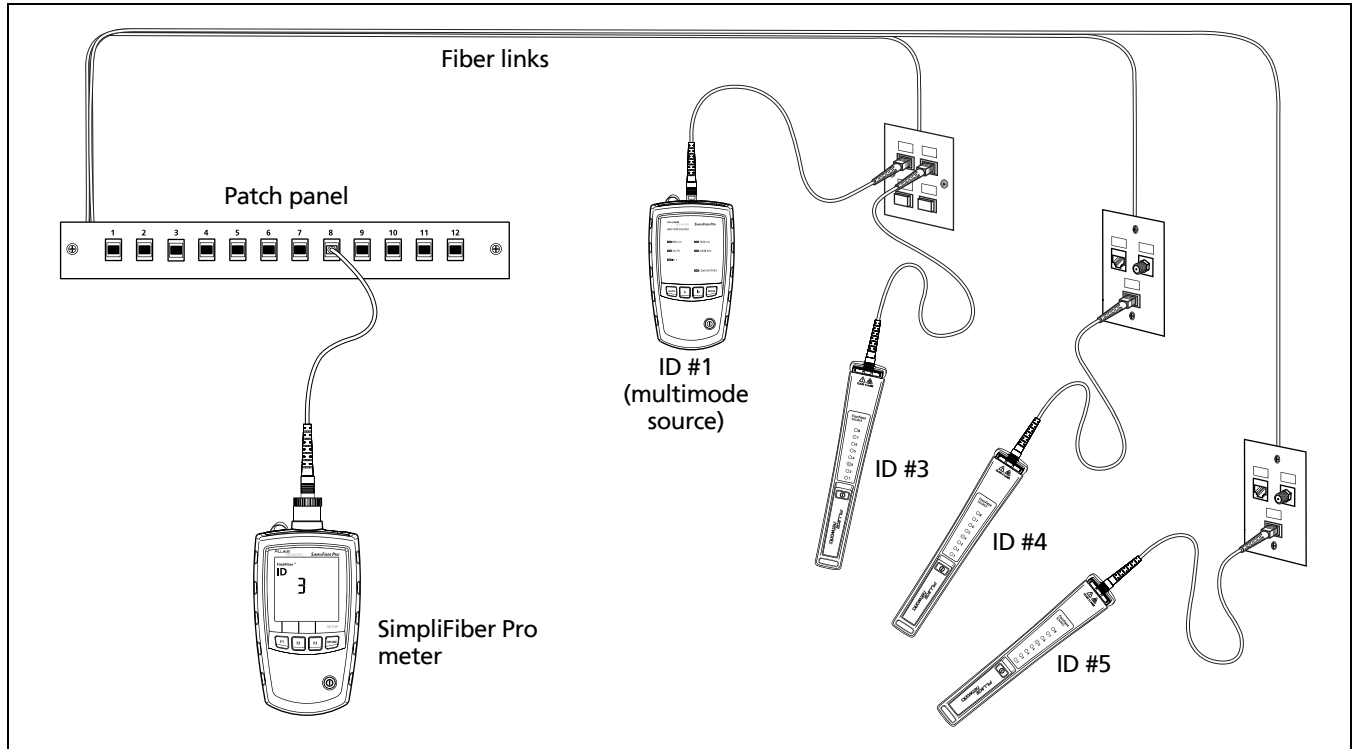

Figure 6. Using FindFiber Mode to Locate Fibers
- 1 Connect the meter and a SimpliFiber source or one or more FindFiber sources to the links as shown in Figure 6.